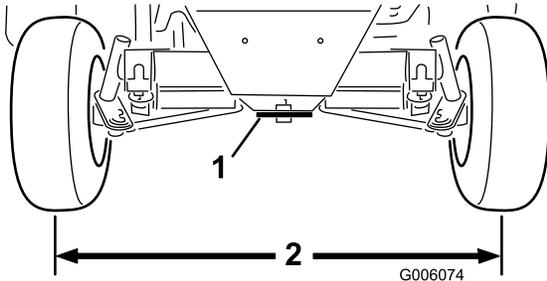

Figure 64
2. Adjust both tie rods until center-to-center distance at front and back of rear wheels is the same (Figure 64).